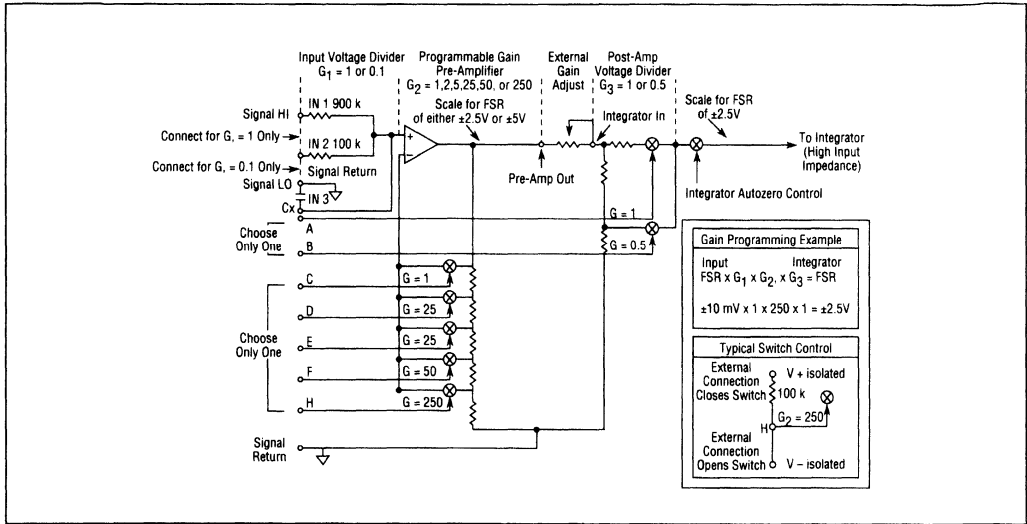

Figure 2. MP2316A Gain Programming.
2. With Cx = 1.5 μF installed between AUTOZERO RETURN and IN3, or with external diode input protection circuit per Figure 2.
The three gain stages shown in Figure 2 allow selecting any of the 13 gains from 0.05 to 250 inclusive, providing full scale ranges from ±50V to ±10 mV. The external potentiometer connections shown allow fine adjustment of any selected range. For example, a 1 kΩ pot provides a ±4.5% adjustment, more than adequate for obtaining either a ±1.000V FSR or a ±1.024V FSR with one basic gain selection.
Each of the gain stages may be externally configured using either switches, relays, or opto-isolators, or by any other convenient means available in the host system. The module's own floating output voltages may be used for controlling the MP2316A's internal solid-state switches, A through H, per the inset of Figure 2.
3. Input Gain (see Figure 2 and Input Connections).
The specifications call out a maximum continuous input without damage of 264 VAC RMS. This assumes a value for  $C_x$  of 1.5  $\mu\text{F}$  connected between the IN3 and SIGNAL LO pins as shown in Figure 2. Failure to use this capacitor will result in damage to the unit under the specified input conditions. It should be noted that this capacitor will form a low-pass filter on the input ( $RC = 900 \text{ k}\Omega/1.5 \mu\text{F}$  for INPUT 1 and  $RC = 100 \text{ k}\Omega/1.5 \mu\text{F}$  for INPUT 2). This will reduce the usable signal bandwidth at the input to the A/D.